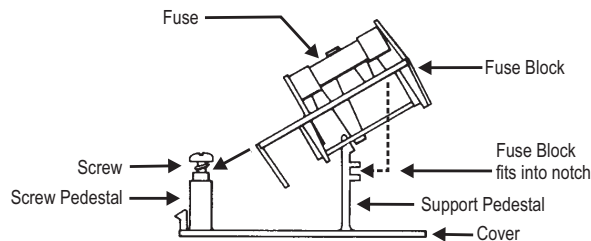

Figure 6. Changing fuse types.
- On the back of the cover, loosen the Phillips screw two turns, then remove the fuse block by sliding it up and away from the screw, and lifting it from the pedestal at the other end, as shown in Figure 6.